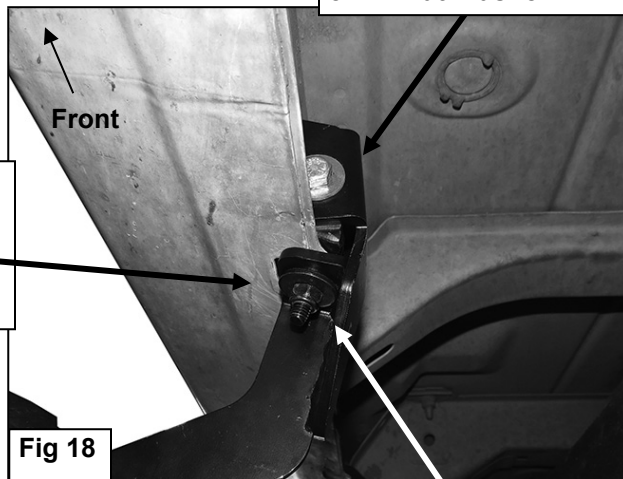

Fig 18
- a. **Models with a weld-nut:** Slide the Bracket over the weld-nut, (**Figure 14**). Attach the Lower Bracket to bottom of the body and weld-nut with (1) 8mm x 25mm Hex Bolt, (1) 8mm Lock Washer and (1) 8mm Flat Washer, (**Figure 18**). Leave loose at this time.
11. Line up the side tab on the Lower Bracket with the threaded hole in the Upper Bracket. Attach the Lower Bracket to the side of the Upper Bracket with (1) 8mm x 25mm Hex Bolt, (1) 8mm Lock Washer and (1) 8mm Flat Washer, (**Figure 18**). Leave loose at this time.